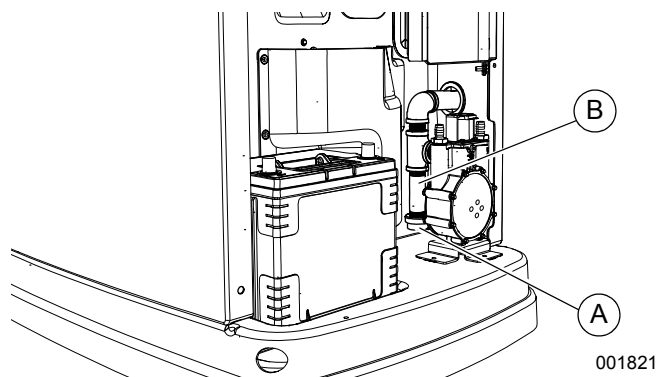

Figure 4-6. Cleaning the Sediment Trap
5. See Figure 4-6. Unscrew and remove the cap (A).